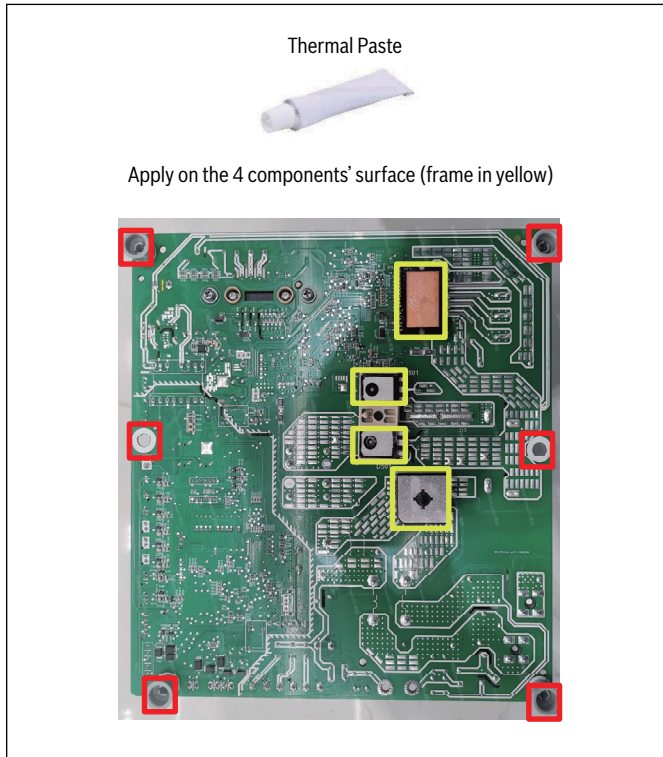

Figure 3
- Apply the thermal paste on the 4 components of the replacement board (refer to Figure 3).
12. Install the 6 plastic standoffs on the new board (refer to Figure 3: items framed in red).